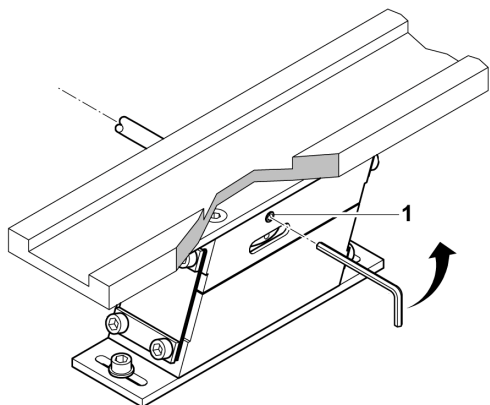
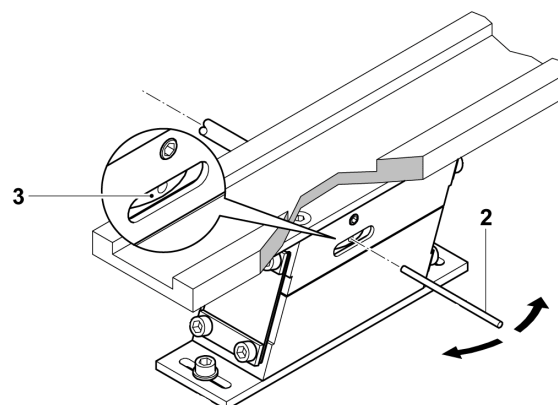

Figure 9
Figure 10
1. Tourner la vis culasse (reg. Figure 9, Figure 10) :